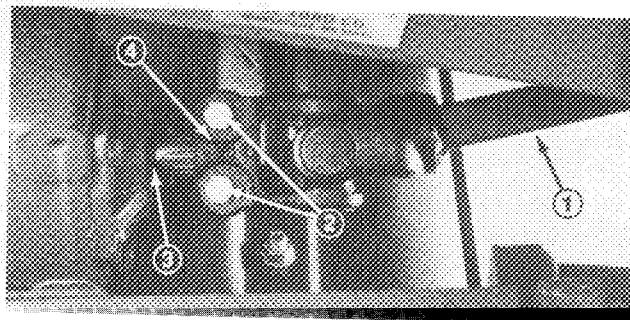

Figure 3
2. Stop engine, slide cutting unit under frame, slide male PTO shaft into female PTO shaft. Align gearcase input shaft with PTO shaft and slide together. Secure with roll pin (Fig. 3).